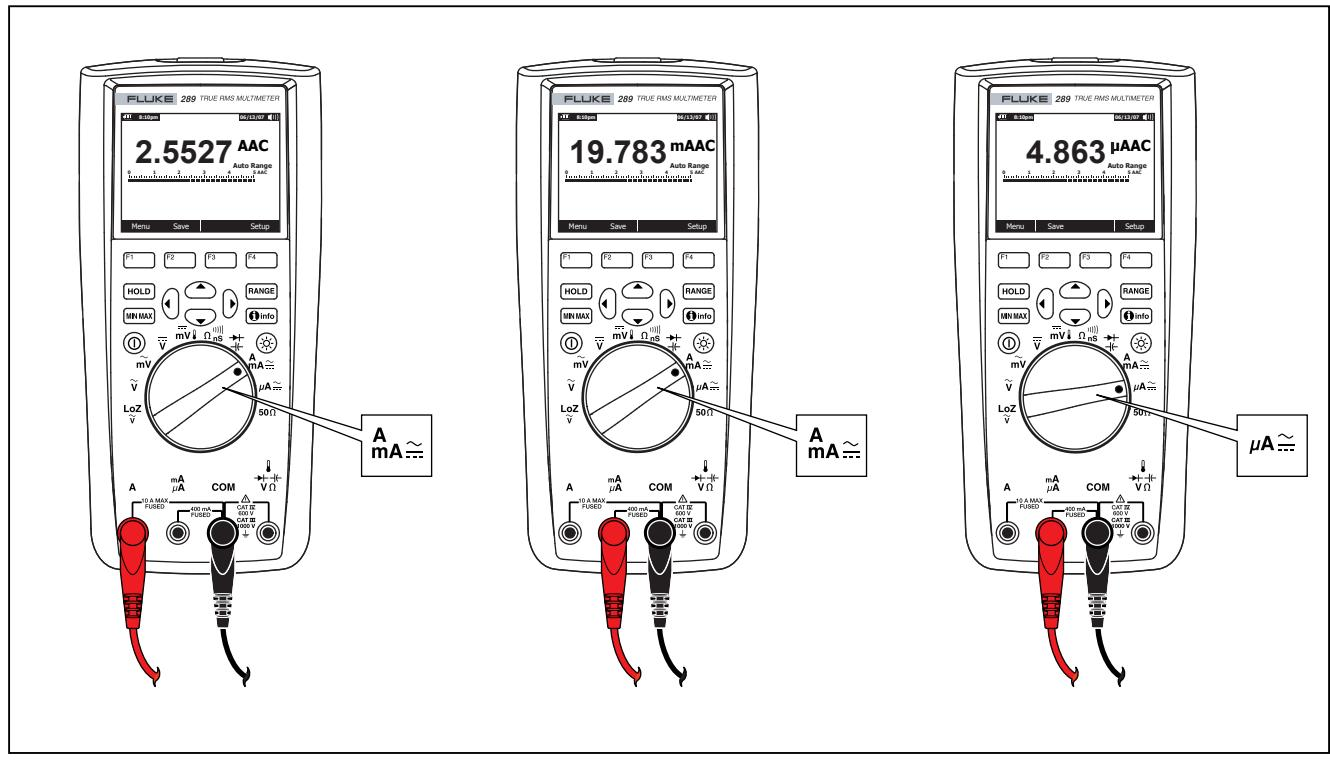

Figure 21. Current Measurement Setup
3. If you are using the A terminal, set the rotary switch to A_{mV} . If you are using the mA/µA terminal, set the rotary switch to μA_{mV} for currents below 5000 µA (5 mA), or A_{mV} for currents above 5000 µA. See Figure 21 for test lead connections and function selection. Refer to the "Input Alert Feature" section for information on the alerts the Meter uses when leads are not used correctly for current measurements.